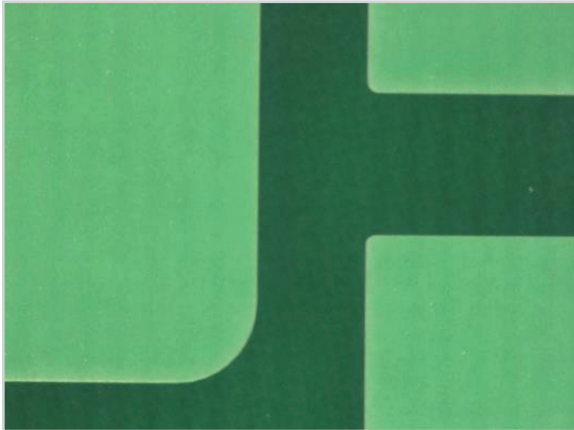

Figure 7 Porous Mask Before C3 Exposure
- 2 Porosity of the soldermask and non-mask areas** – the porosity of the soldermask is a function of the mask cross linking - when not completely cross linked, masks show an increase in porosity which allows for increased entrapment of flux and fabrication residues. It is difficult to complex this greater volume of flux and the flux will stay moisture absorbing, creating pathways through the mask and even a color change, as shown below (Figures 7 and 8).